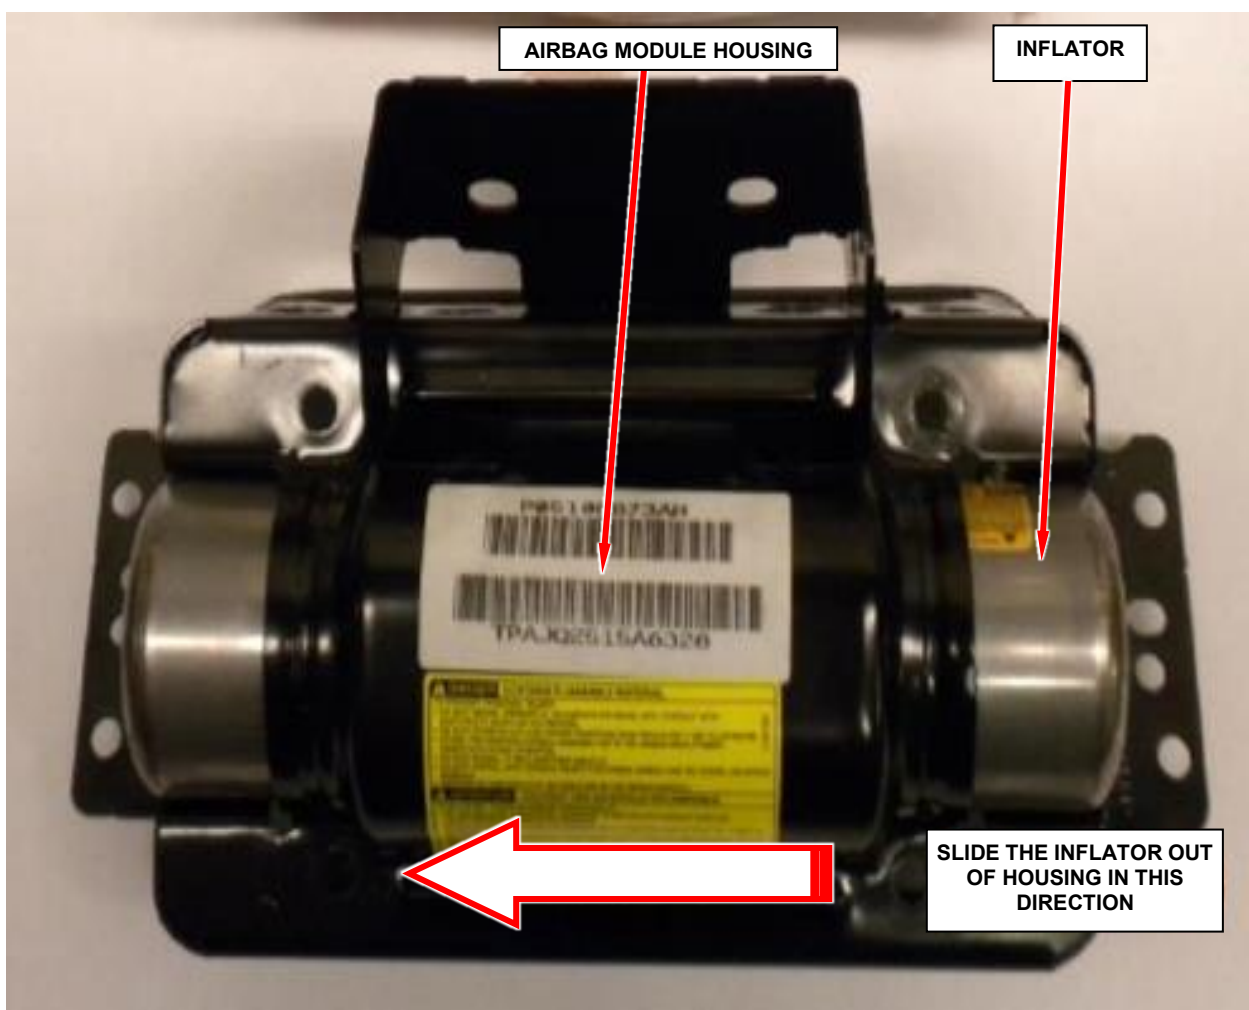

Figure 20 – Remove Airbag Inflator
- k. Slide the inflator out of the passenger airbag module housing (Figure 20).